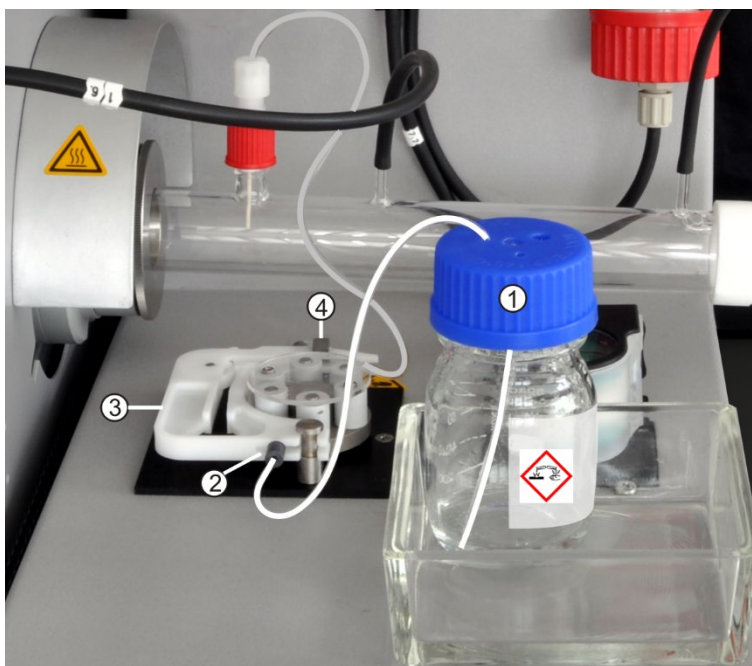

Figure 49 Clamping the pump hoses
3. Open the hose cartridge (3 in Figure 49) and remove the pump hose.
6. Clamp the pump hose between the two plastic stoppers (2 in Figure 49) in the hose cartridge.